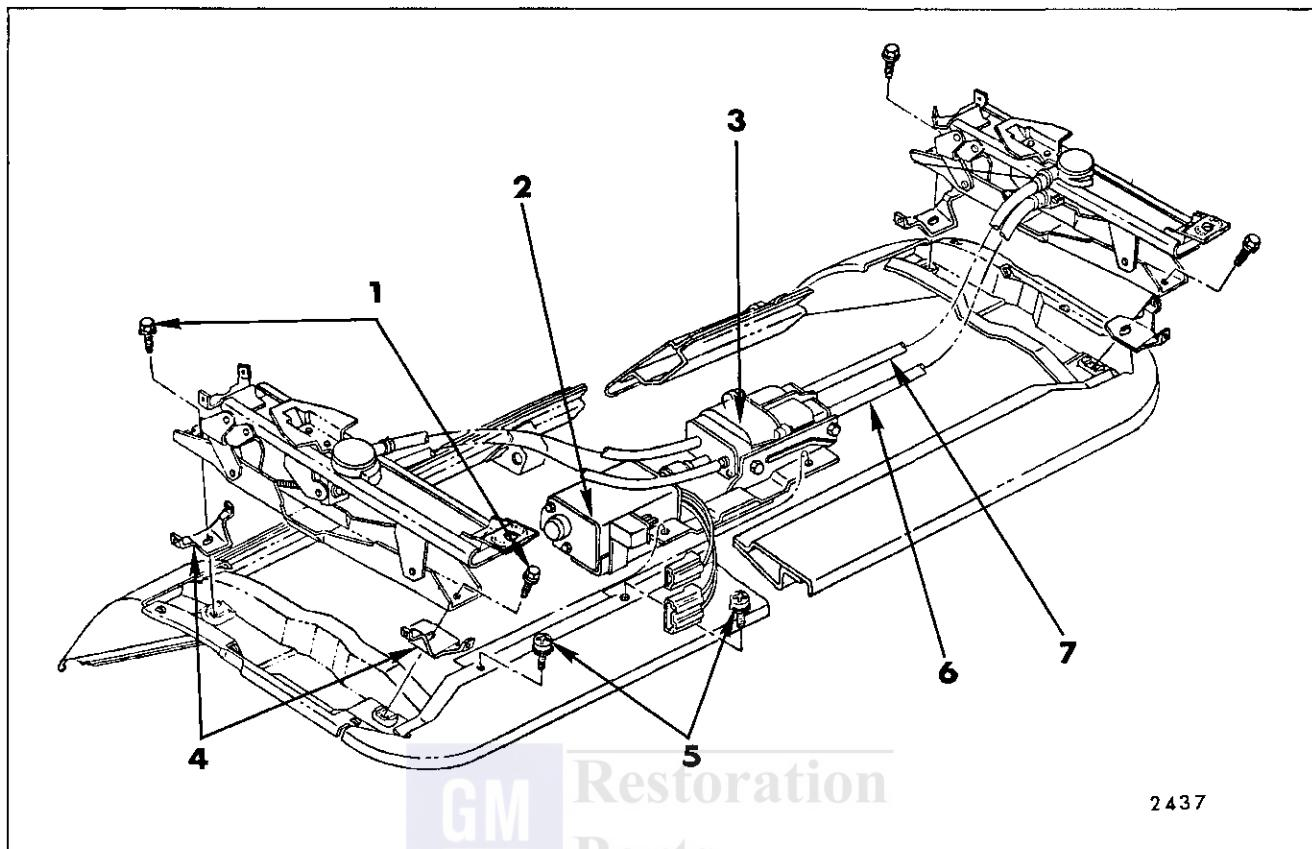

Fig. 15-7—Front Seat Assembly — Four-Way Tilt — "A" Styles
5. To install seat adjuster assembly, reverse removal procedure. On seats with adjuster upper track covers, make sure track covers are installed between adjuster and seat frame (Figs. 15-7, 15-13 and 15-16). Check operation of seat adjusters and make sure adjusters are "in phase" before installing assembly into body (See Step 6 under "Front Seat Assembly - Removal and Installation").
3. Remove screws securing motor and transmission support to seat bottom frame (See Fig. 15-7).
2. Remove seat adjuster-to-seat bottom frame front and rear attaching bolts on side affected (Fig. 15-7).
3. Remove screws securing horizontal and vertical cable end plate on side of transmission from which cables are being removed and remove cables from seat assembly (Fig. 15-7).